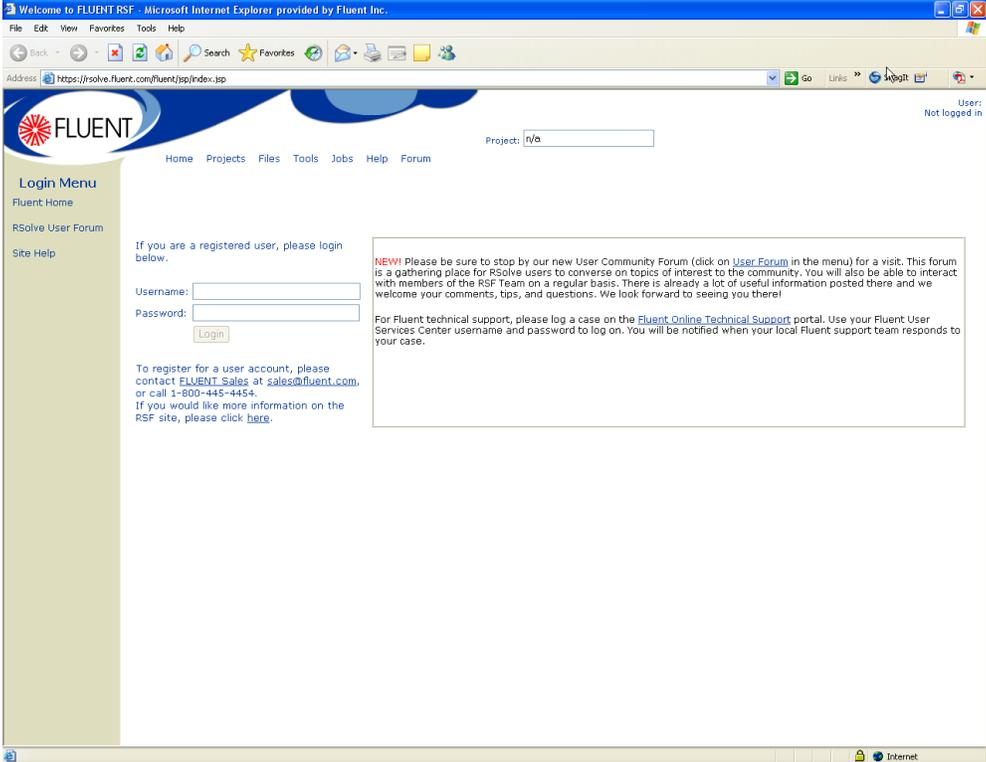

Figure 27.11.13: The RSoLve Home Page on the User’s Services Web Site
- (a) Select **Save RSF username and password** if you don't want to have to retype it in future sessions. If you don't yet have a RSF username and password, click the **Create or Manage RSF Account...** button to open the RSF Home page on the User's Services web site (Figure 27.11.13).